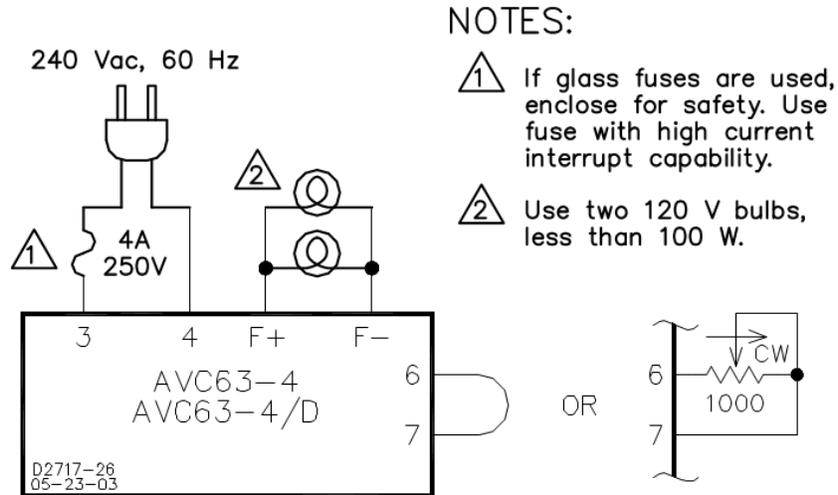

Figure 7. Operational Test Connections
1. Connect the analog voltage controller as shown in Figure 7. Do not apply power. Ensure that the incandescent light bulbs are rated for 120 volts and less than 100 watts.